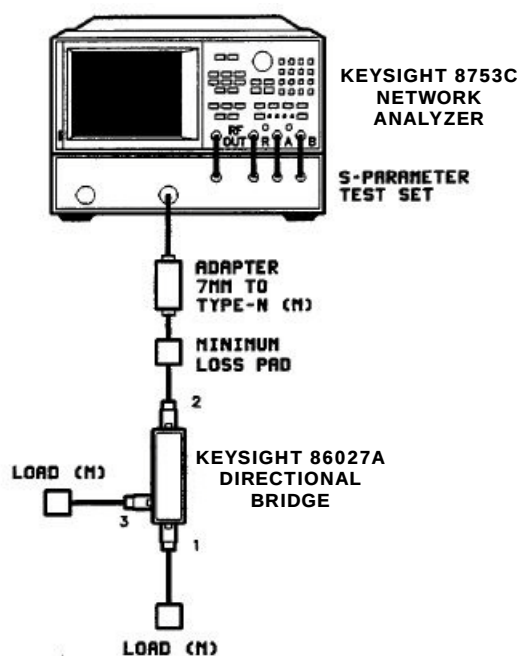

Figure 3-7 Equipment setup for return loss measurement on port 2
- 16** Connect the equipment as shown in Figure 3-7 and repeat steps 11 through 14 to find the return loss on port 2.